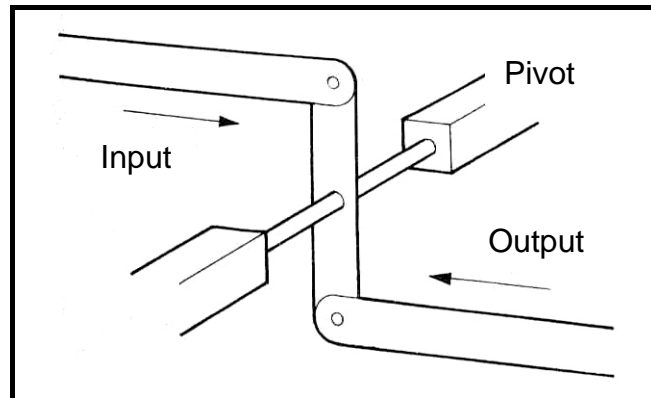

FIGURE 1.8
- 1.18 Define the type of linkage (an assembly of levers designed to transmit motion and force) shown in Figure 1.8?